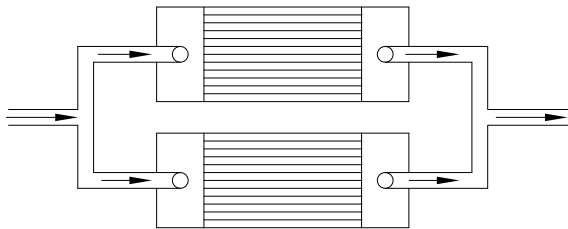

FIG.11 Coolers connected in parallel
2.5.8 For piping diagrams for multiple cooler installations, see Figures 11 through 14.